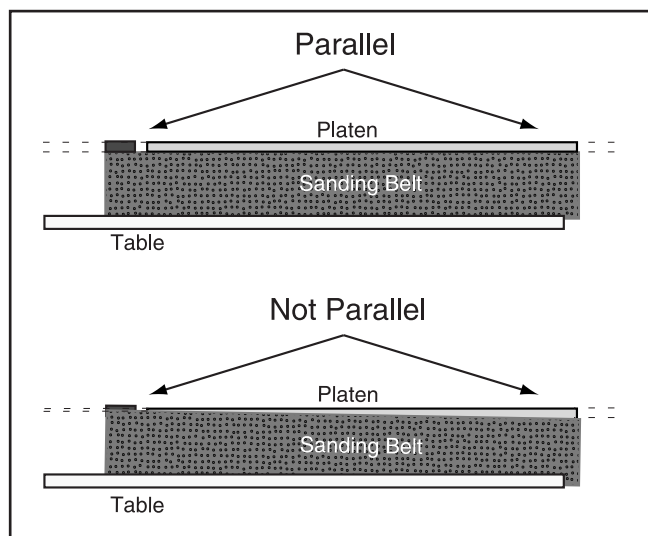

Figure 51. Illustration of parallel belt tracking.
The belt should track on the rollers so that the top edge of the sanding belt stays parallel with the top edge of the platen graphite, as illustrated in **Figure 51**.
1. Track the belt so it is centered on the main roller and the top of the belt is parallel with the top of the platen, as shown in **Figure 51**.